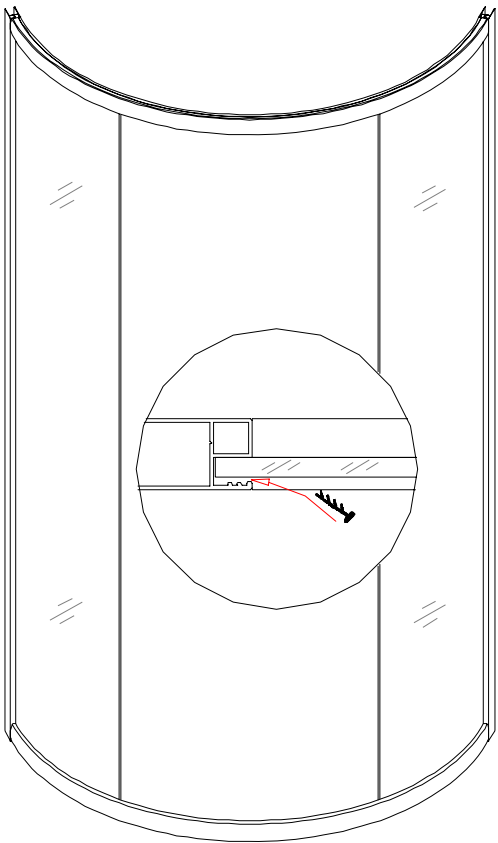

Fig 5
3. Secure another side of Stationary glass inside of the Glass profile groove with Single side plastic strip (10). Push Single side plastic strip between glass and side of groove (fig 5).